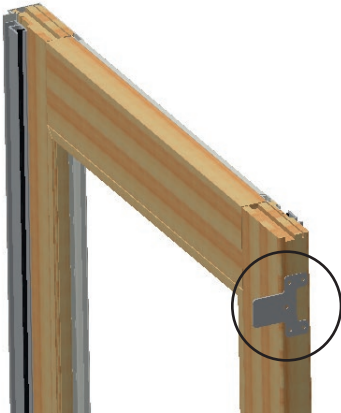

FIG. 16
- A) All panel types are identified with a sticker (lead, sec, intermediate, stacking or pocket). Install the collector plates on the intermediate panels as shown in Fig. 16.